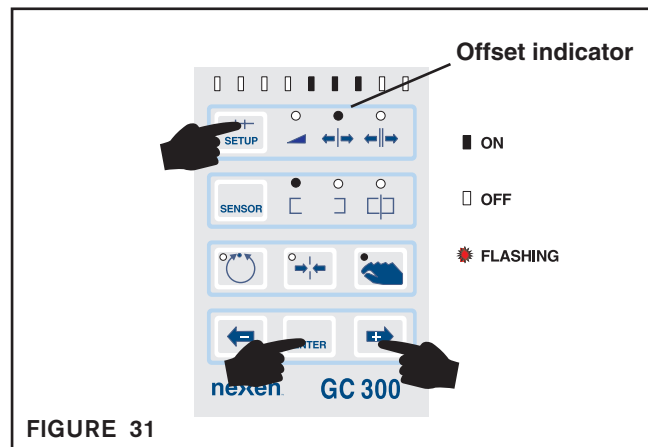
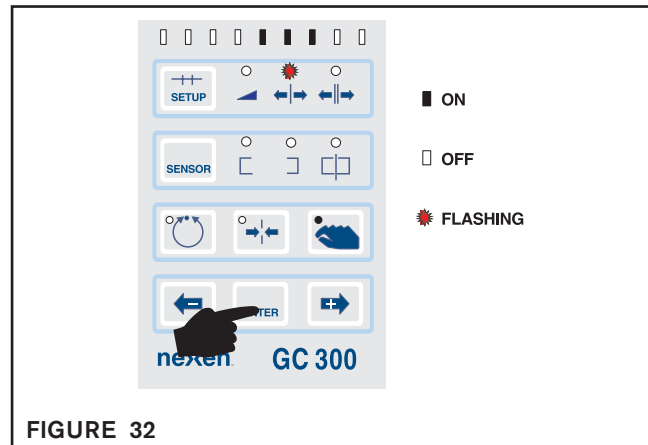

FIGURE 31
FIGURE 32
1. Repeatedly press the SETUP Key until the indicator for Offset lights up (See Figure 31). The Bar Graph indicator shows the percent of offset that is used up in each direction. The amount of offset available depends on the sensor type (See Figure 31).
2. Press the + or - key to move the web edge position to the right or left. When the + or - keys are pressed, the Green indicator will keep flashing and the Red indicators will show the Offset distance (See Figure 31).
5. Press ENTER (Figure 32) to save any changes, or press SETUP (Figure 31) to exit without saving the changes.